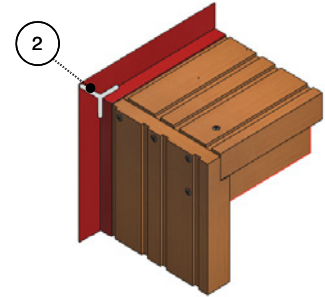

Figure 2
- d. Add galvanized nailing fin sealant on mitered joints, perimeter and sides. Gasket is then placed at each top corner. (Figure 2 & 3)